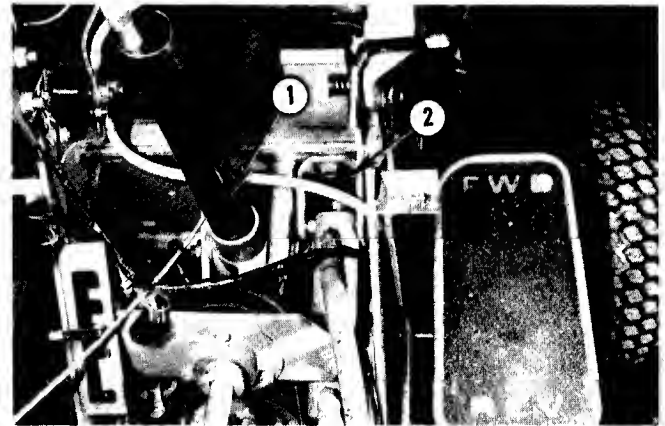

FIG. 2.2 — HYDRAULIC CYLINDER LOCATION
2. Connect hydraulic cylinder bracket to frame with retaining bolts. Fig. 2.2.